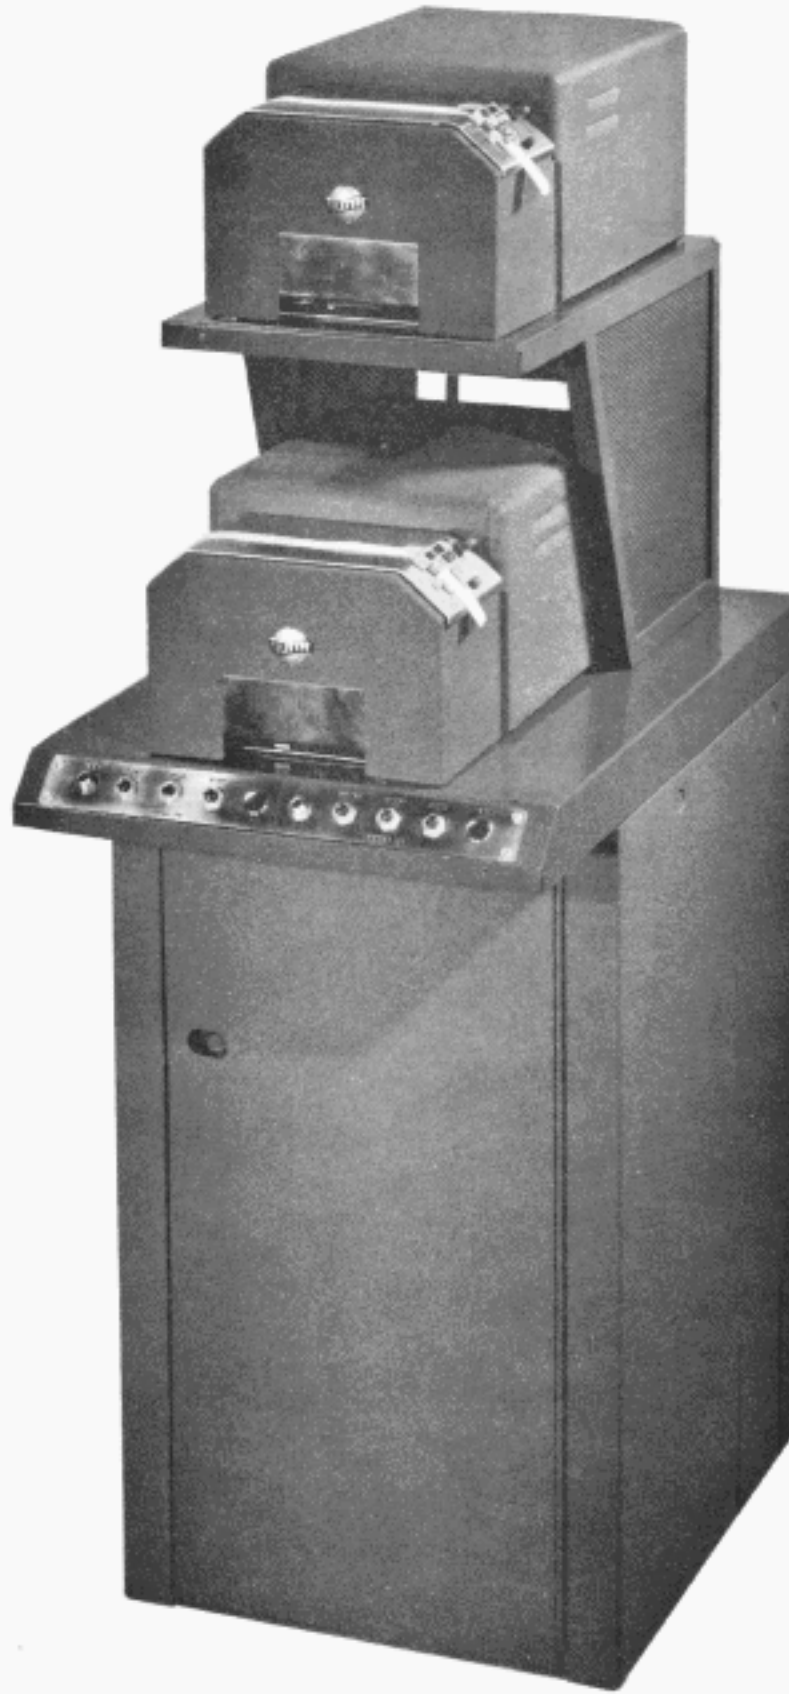

FIGURE 4-4. TRANSMITTER DISTRIBUTOR CABINET (AC)
4. DISASSEMBLY AND REASSEMBLY OF THE APPARATUS CABINET FOR HOUSING ONE OR TWO SELF CONTAINED TRANSMITTER DISTRIBUTOR UNITS - AC (Refer to Figure 4-4)